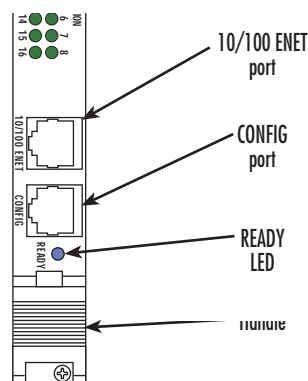

Figure 13. Model 3096RC interface ports
3. Connect the RJ45-RJ45 cable between the adapter which you installed in step 1 and the *RS-232 Config* port on the front of the Model 3096RC (figure 13).